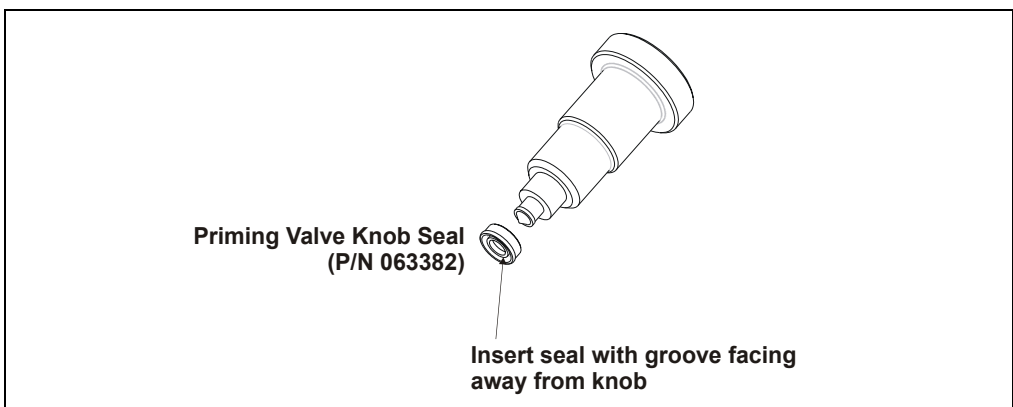

Figure 9-10. Replacing the Priming Valve Knob Seal
- When correctly installed, the groove in the priming valve knob seal faces away from the knob (see Figure 9-10). Hold the new seal (P/N 063382) carefully, to avoid scratching or nicking the sides, and then slide the seal onto the knob.